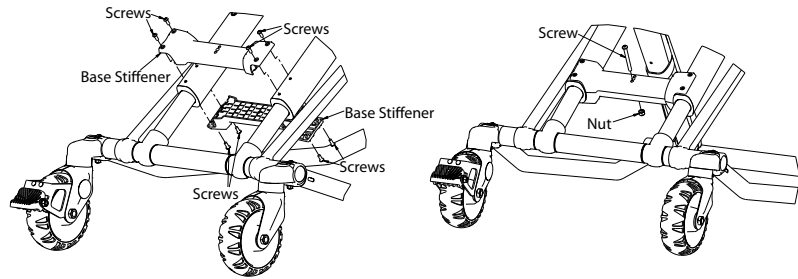

Figure 60
1. Using a T25 Torx driver, remove the four Torx screws from the base stiffener (see Figure 60).
1. Using a T25 Torx driver, remove the four Torx screws from the base stiffener (see Figure 60 on page 63).